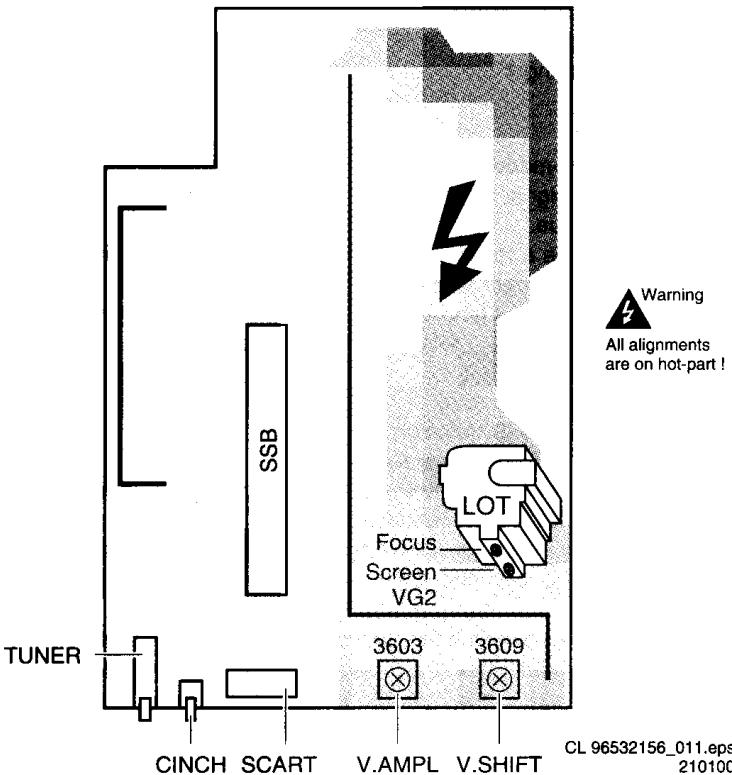

Figure 8-1
2. Adjust the Focus potentiometer (upper potmeter, see figure 8-1) for an overall optimum focusing of the picture.
4. Adjust the  $V_{G2}$  potentiometer (lower potmeter, see figure 8-1) so that the measuring pulse with the highest noted level is on  $160 \pm 3\text{ V}_{DC}$  level.
2. Align the vertical amplitude with R3603 (see Fig. 8-1) so that the complete test pattern is visible.
2. Align the vertical centering with R3609 (see Fig. 8-1) so that the test pattern is located vertically in the middle.